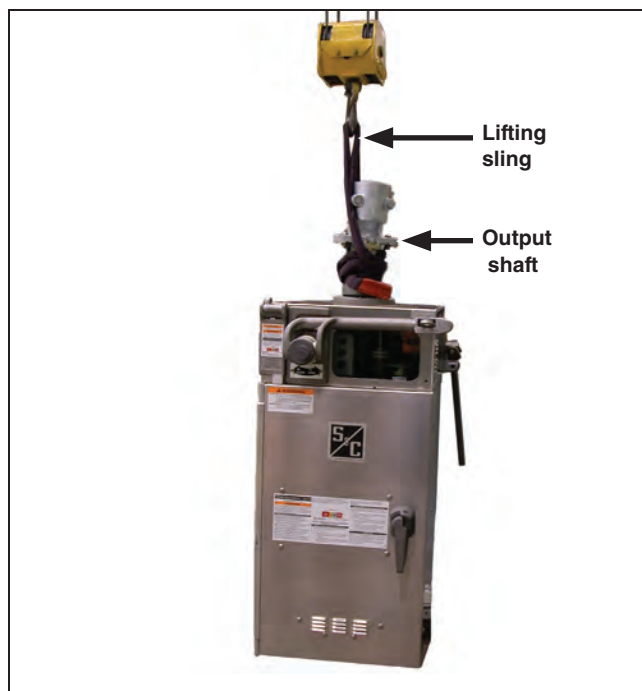

Figure 24. Attach the lifting sling to the output shaft.
- STEP 2.** Attach lifting slings around the output shaft of the Mark VI CS-1A Switch Operator. See Figure 24. Lift the operator into place on the user-furnished mounting structure. Avoid sudden starts and stops.